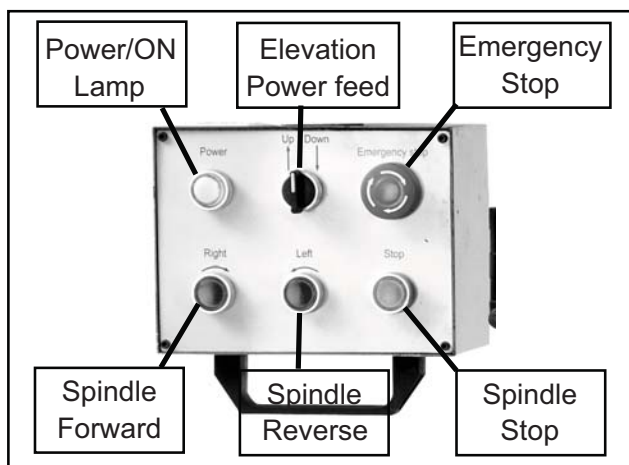

Figure 6. Control panel.
1. Push Emergency Stop button (see **Figure 6**).